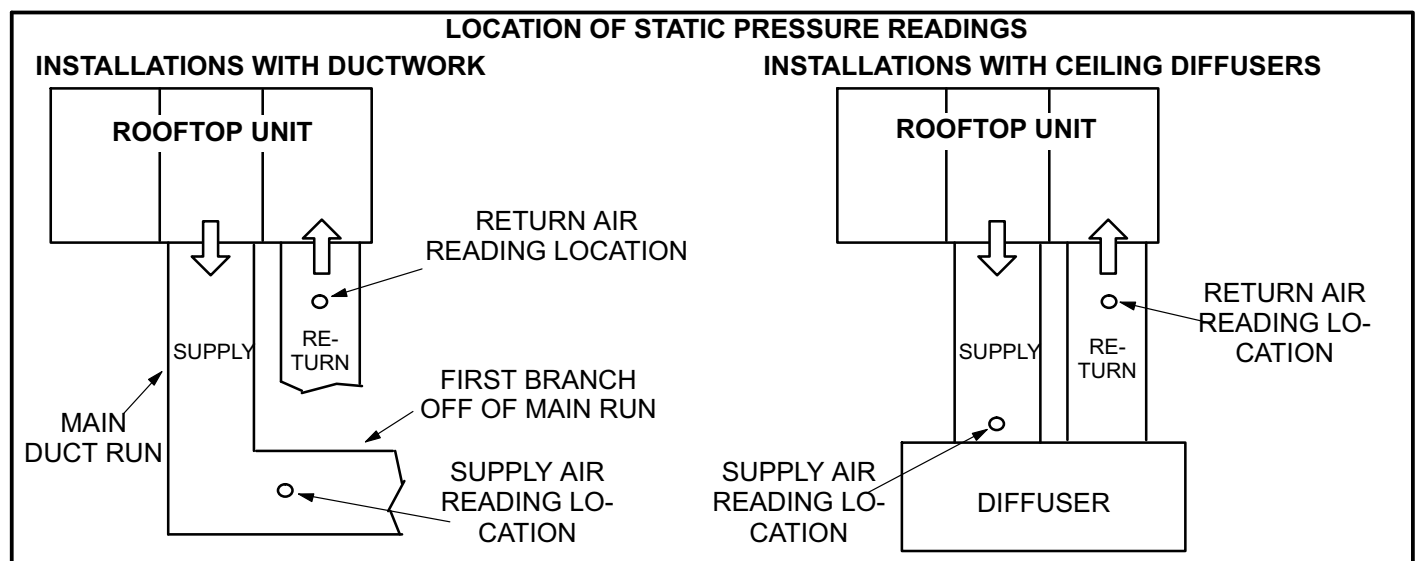

FIGURE 10
- 2- With all access panels in place, measure static pressure external to unit (from supply to return). Blower performance data is based on static pressure readings taken in locations shown in figure 10.